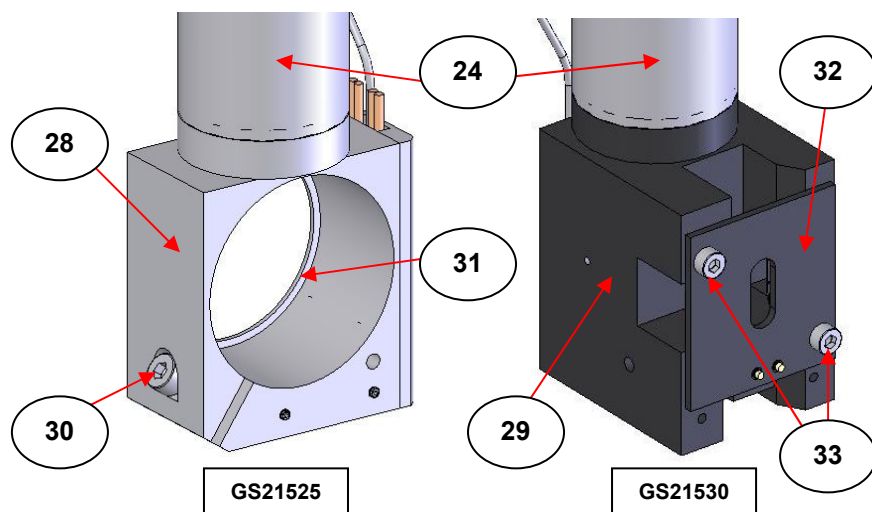

Fig 9. Cell Holder Parts of VT Cells GS21525 and GS21530
The type of sample cell for liquids or solids that is to be used within the cell holder part **(28)** – see Fig 9.) of the dewar assembly will determine which of these port positions may be needed.
The sample cell holder part (area) of the VT Cell Holder Accessories differ between P/N's GS21525 (28) and GS21530 (29). (See Fig 9.) The sample cell holder part is fitted directly to the base of the stainless steel refrigerant chamber (24).